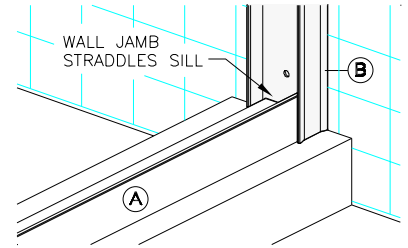

figure 3
4. Place Wall Jambs (B) on to ends of Sill (A) and up against shower walls as shown in figure 3. Plumb the Jambs, then pencil mark their installation holes locations on the shower walls (3 per jamb). Remove Wall Jambs. Using a 3/16" glass / tile drill bit, drill 1" deep installation holes in locations previously marked. Insert Plastic Screw Anchors (H) into holes.
11. Run a bead of clear mildew resistant caulking down the full length of each Wall Jamb **outside** where the Jambs meet the Walls. Now run a bead **outside** where the Sill meets the curb. Finally, run a bead along the crevice where the Wall Jambs straddle the Sill, see figure 3. Follow caulking manufacturer's instructions before using shower (normally 24 hours). Installation is now complete.